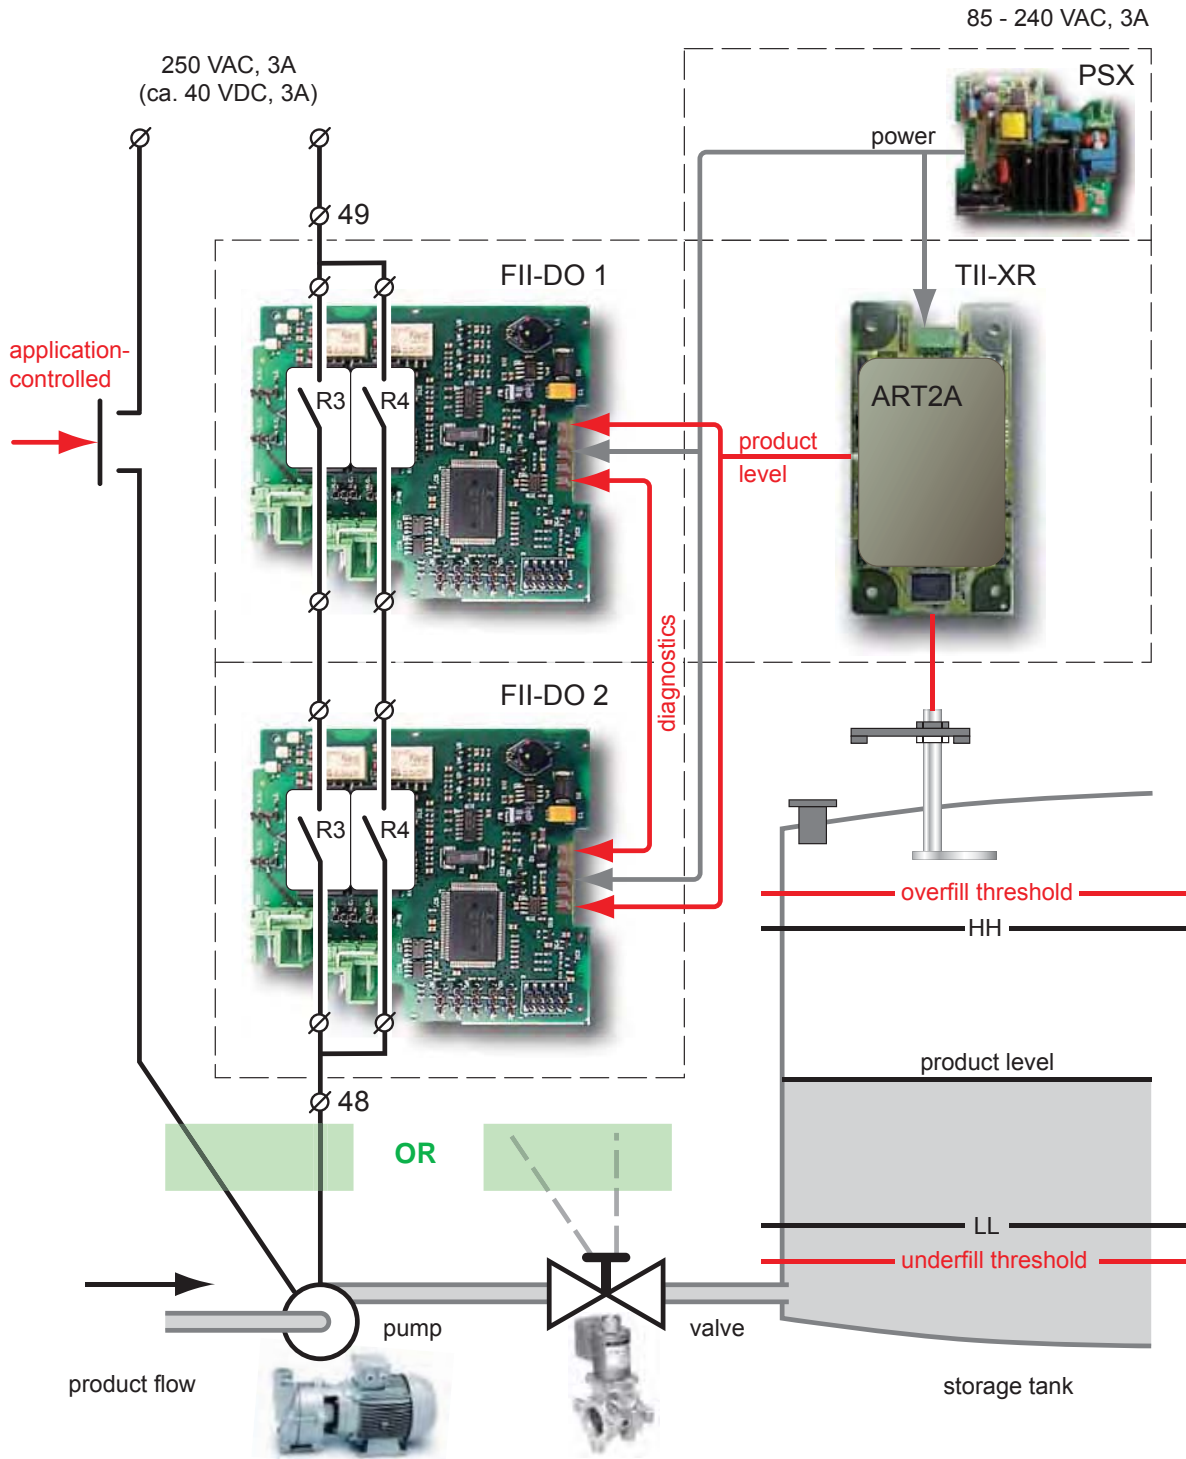

FIGURE 6-23
- Relays 4 are used to increase the availability: if a problem is detected with the other relays, the redundancy takes care that the overfill protection function will work (see also FIGURE 6-23).
- The relays typically can stop a pump or close a valve that is used filling a storage tank. See FIGURE 6-23.